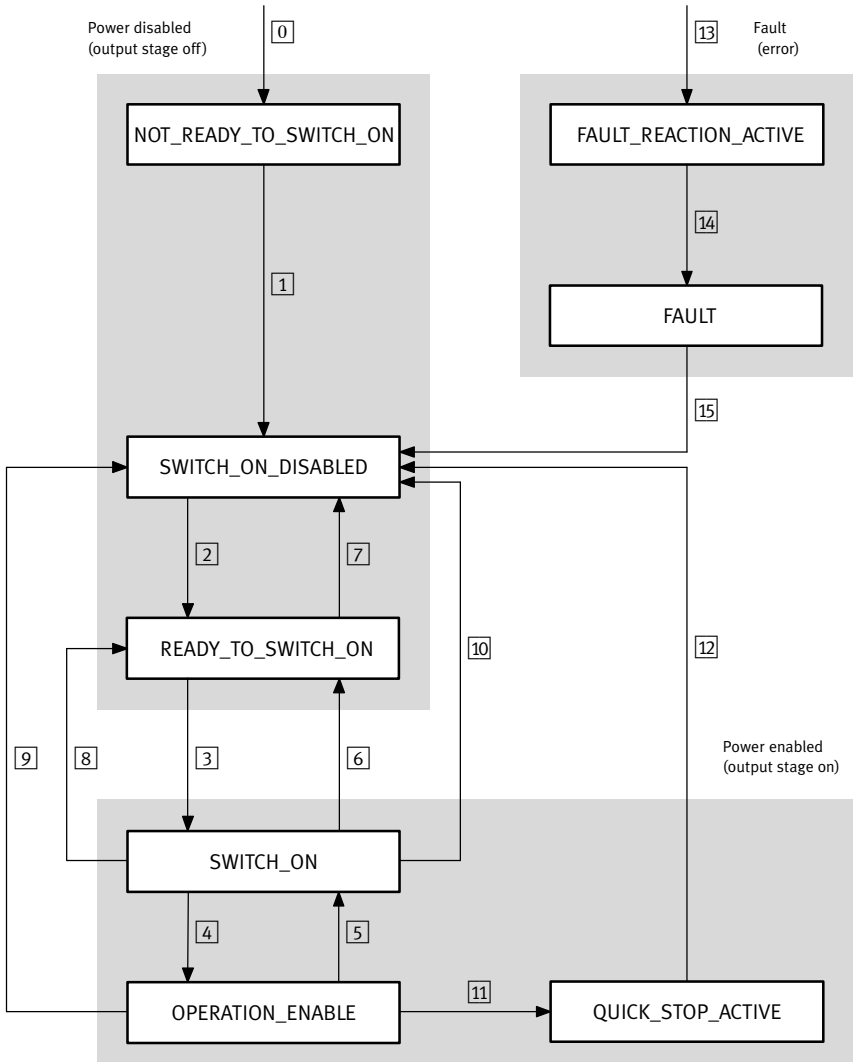

Fig. 6.1 Status diagram of the motor controller
3. According to the status diagram (Fig. 6.1) the transitions 2, 3 and 4 must be executed.